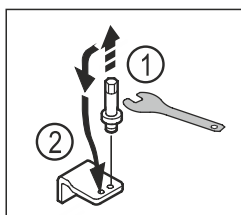

Fig. 20
- Unscrew the bolt of the lower swap bearing block with an Allen key AF5. Fig. 20 (1)
- Insert the bolt on the opposite side. Fig. 20 (2)